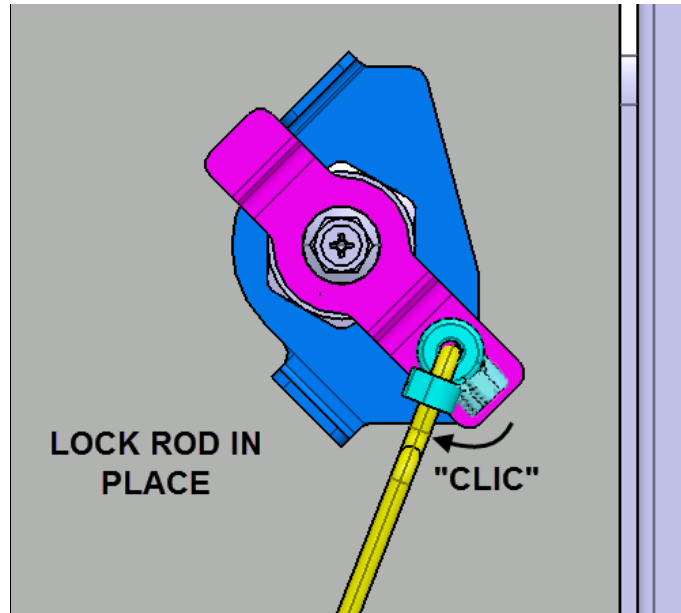

FIG.13 ACTUATOR ROD LOCKED
13. Lock the rod in place by pressing the lower "hook" part of the clip over the rod (Fig.13).